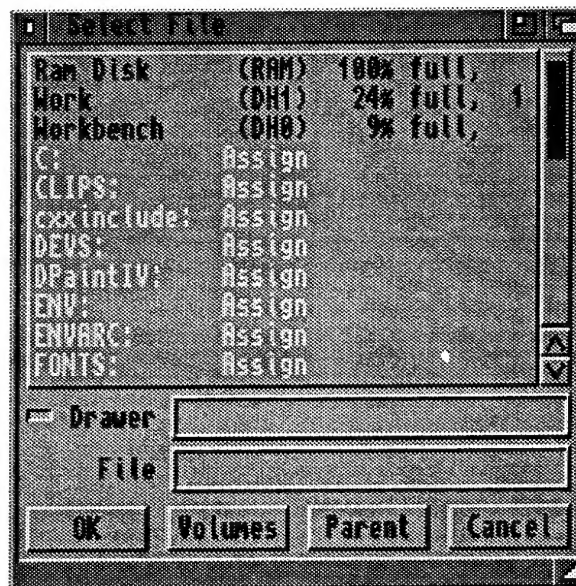

Figure 3. The Amiga file requestor is opened when the Card Converter program requires a file name
The 'Image' gadget prompts the user for a file name to save an exact image of the PCMCIA card to disk (see Figure 3). That is, no conversion of the data is carried out, so that a 512 kilobyte card will have a 512 kilobyte file created. The creation of such a file has a number of advantages:
6. Provide a file name using the file requestor	The data file is saved under this name. (section 2.4, 2.4.1, Figure 3)
6. Provide a file name using the file requestor	The data file is saved under this name. (Section 2.4, 2.4.2, Figure 3)